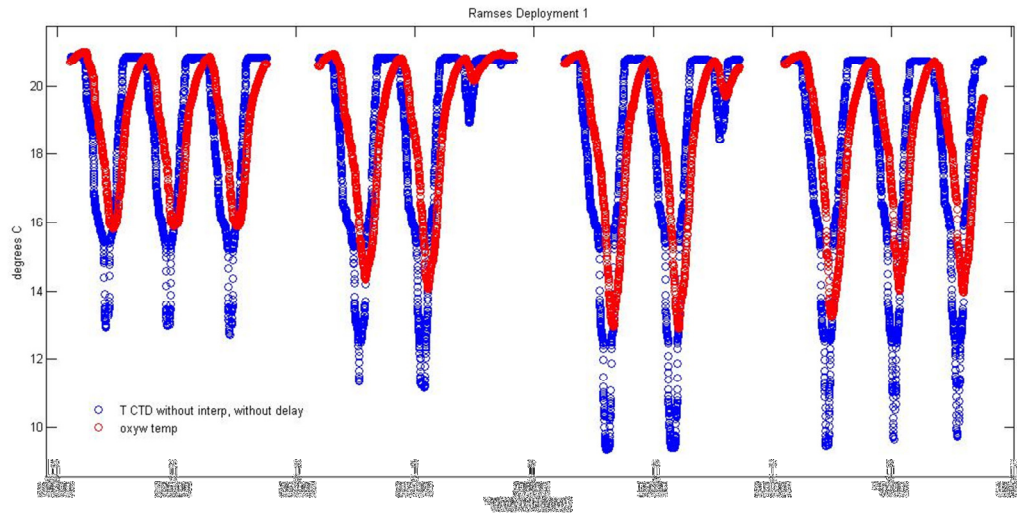

Figure 1a: For Ramses Deployment1, External Temperature (from CTD) vs. time and Internal Temperature (DO sensor) vs. time.
We first document issues with the internal temperature sensors on the Optodes in ramses and pelagia. Figures 1a, 1b, and 1c below compare the dissolved oxygen (DO) sensor's internal temperature with that of the CTD (external) temperature. Note that the dissolved oxygen (DO) sensor's internal temperature lags the CTD (external) temperature. This lag is estimated by finding the lag that corresponds to the peak of the cross-correlation between the two time series. Table 1 reports this lag for Level 1 (L1) data.